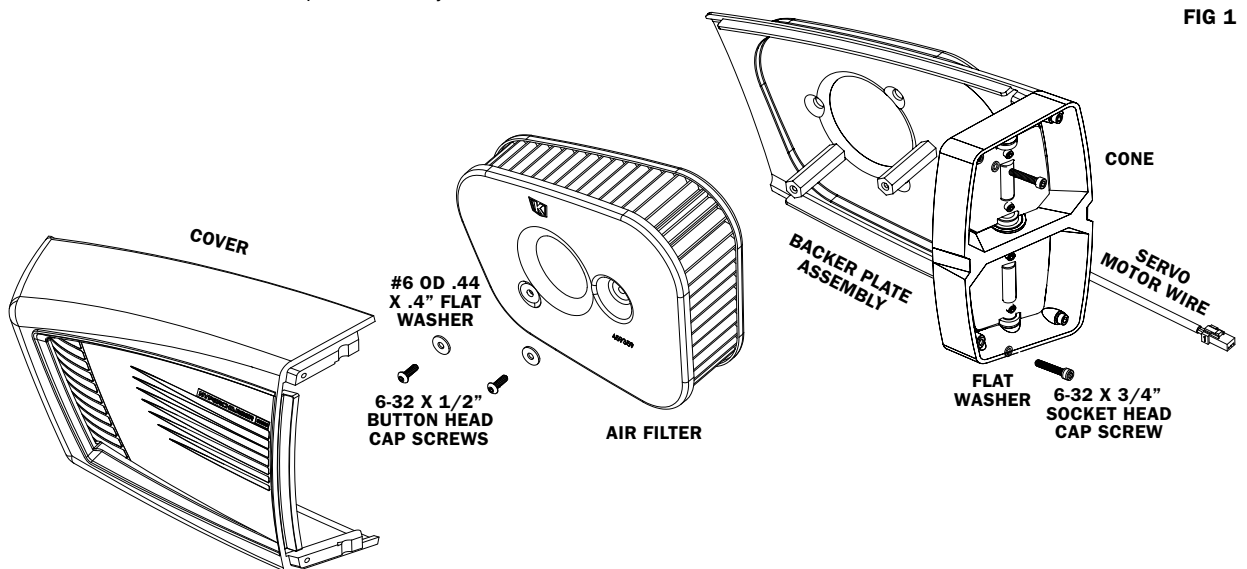

FIG 1
STEP 16 Refer to FIG 1. Locate the provided Hypercharger ES Air Cleaner assembly. Dismantle the air cleaner assembly. Make note as to how it is assembled, it will help for reassembly.
- Remove two (2) outside edge screws from cone, and loosen the two (2) inside edge screws
- Remove two (2) screws and two (2) washers attaching the air filter